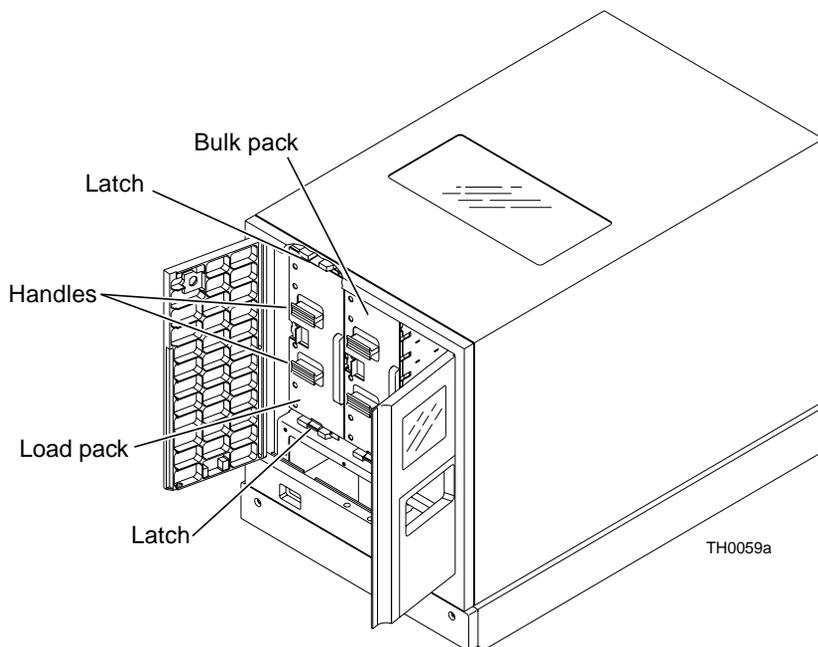

FIGURE 3-6 Removing the Load and Bulk Packs.
- a. **Press the latch at the top of either pack (FIGURE 3-6).**